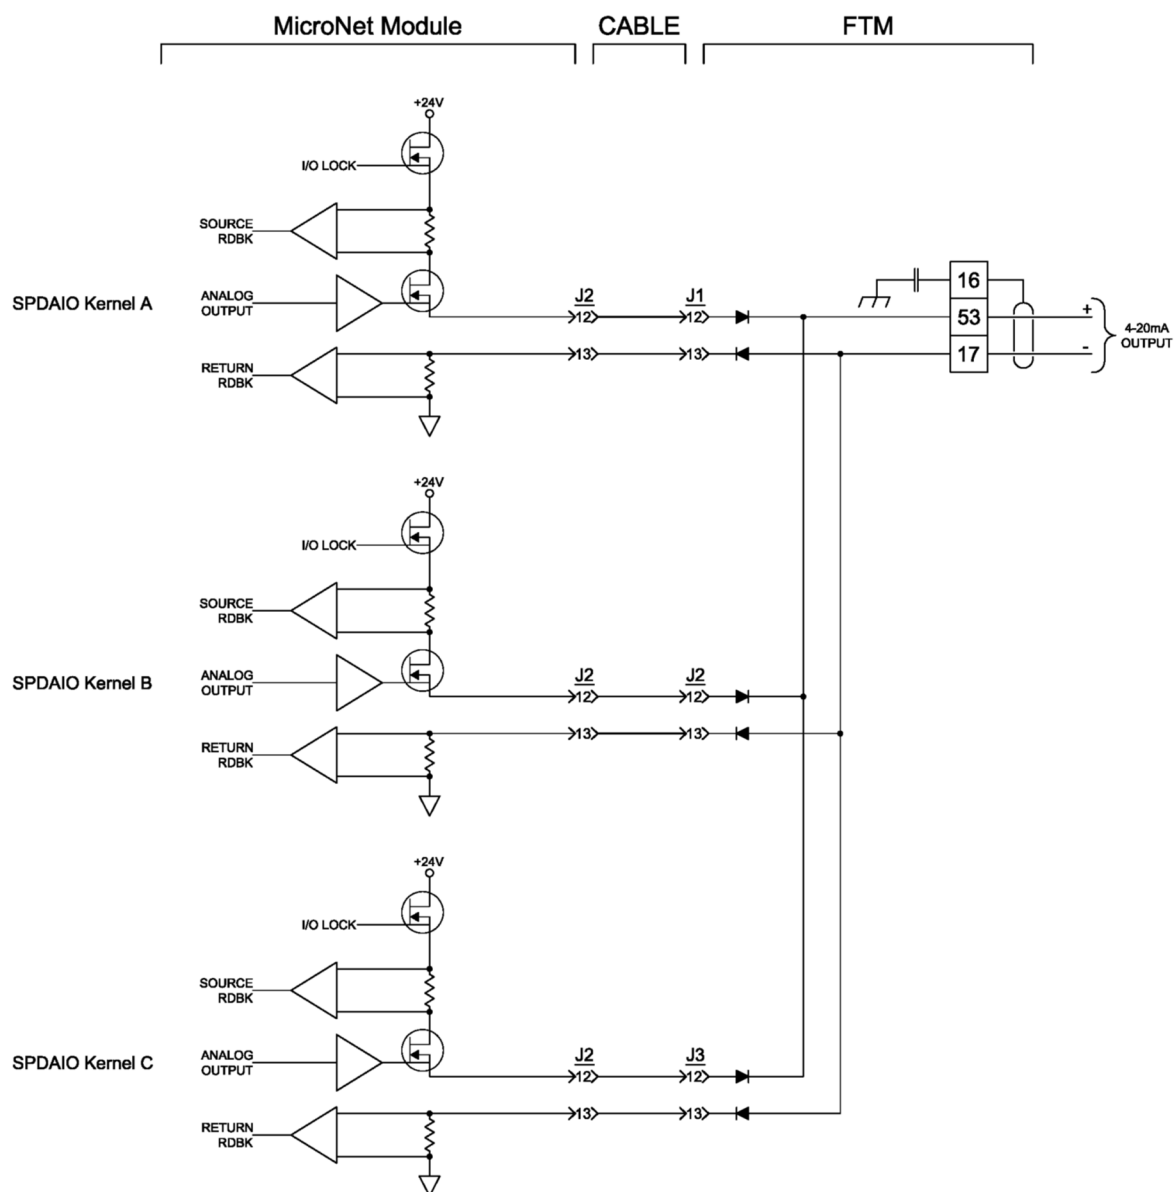

Figure 11-7. Example Analog Output Wiring Diagram
Latent fault detection (LFD) is not usable with all applications or circuits. The control's LFD logic can only work with circuits using voltages between 18–32 VDC, 100–150 VDC, or 88–132 VAC. For LFD to work, a small leakage current is passed through the circuit's load. See Figures 11-7, 11-8, and 11-9. Depending on the size of the load, the leakage current may be enough to cause a load to be on or active, when a relay contact is open. In this case, the individual relay's LFD logic may be disabled, eliminating the leakage current.
2. Use the graph below (Figures 11-7, 11-8, and 11-9) which corresponds to the circuit's voltage level to determine if the voltage developed across the load (due to the leakage current) is lower than the load's drop-out voltage level.